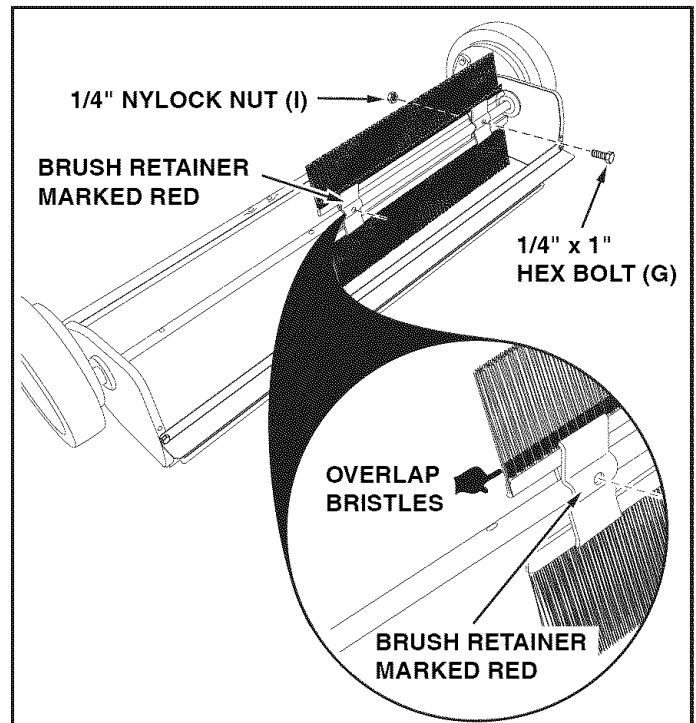

FIGURE 3
STEP 3: (SEE FIGURE 3)
- Attach the brush assembly with the red brush retainer to the right end of the brush shaft using two 1/4" x 1" hex bolts (G) and 1/4" nylock nuts (I). The brush retainer marked with red ink must be placed to the **middle** of the sweeper.